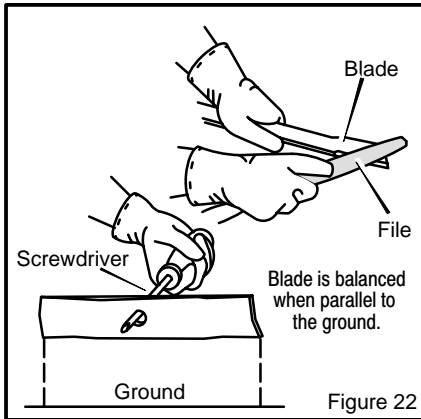

Figure 22
4. Sharpen the **blade** with a **file**. Make sure you keep the original beveled cutting edge (Figure 22).